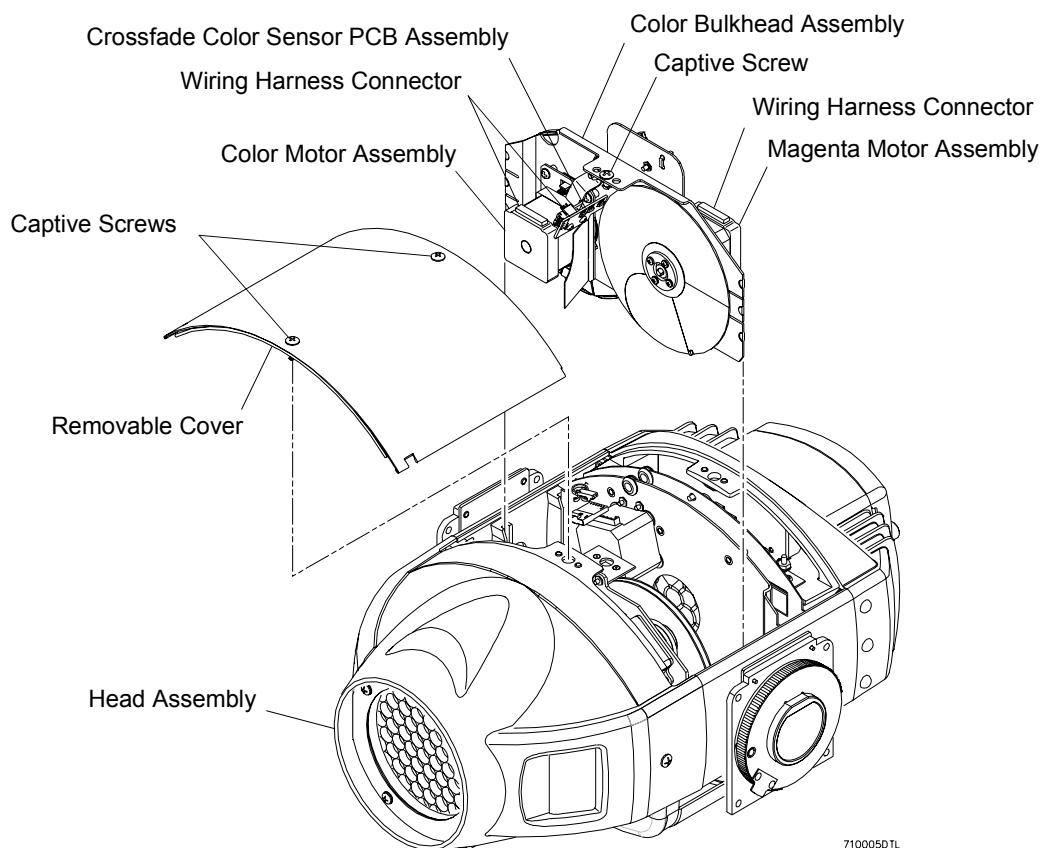

Figure 2-5: Color Bulkhead Assembly Replacement
- Step 2. At head cover, turn two captive screws one-quarter turn and remove cover (Figure 2-5). (It will remain attached by tether.)
- Step 2. At head cover, turn two captive screws one-quarter turn and remove cover (**Figure 2-5**).
- Step 2. At head cover, turn two captive screws one-quarter turn and remove cover (**Figure 2-5**). (It will remain attached by tether.)